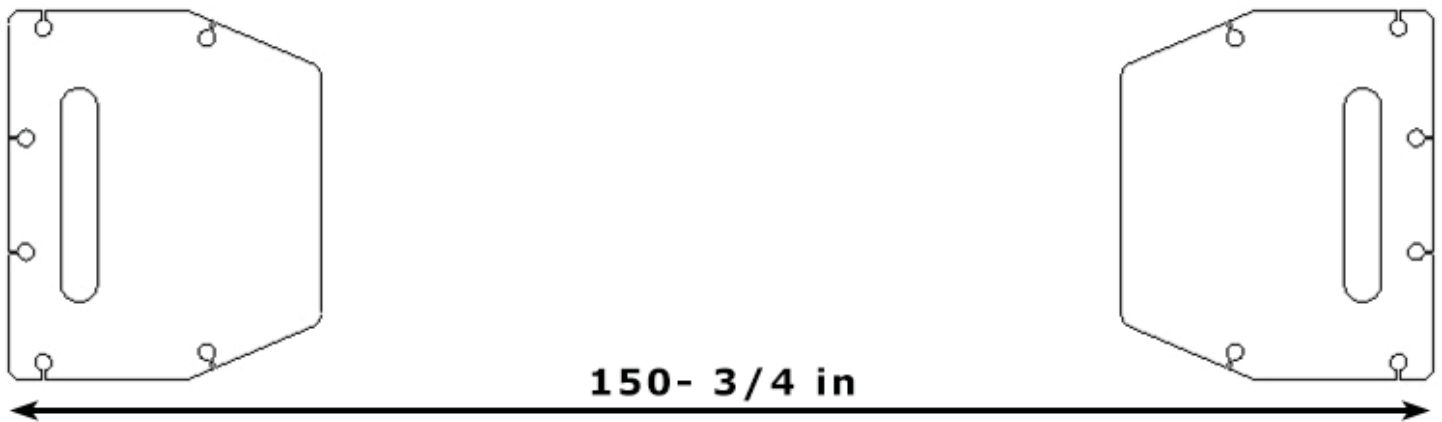

Fig. 5
B. Use a carpenter's chalk line to establish installation layout for the base plates (See Fig. 5).